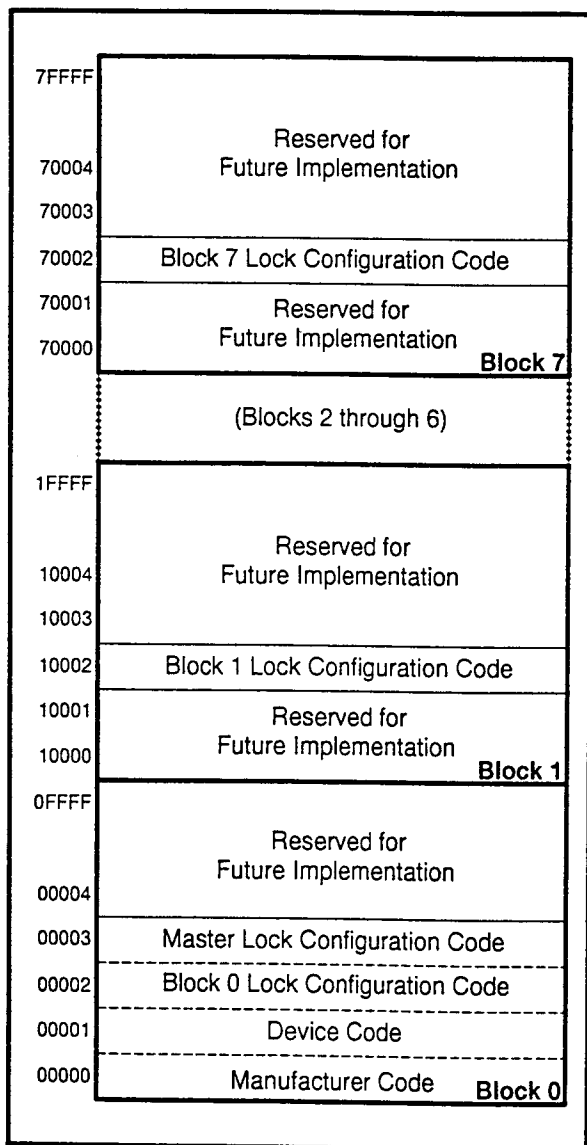

Figure 3. Device Identifier Code Memory Map
The read identifier codes operation outputs the manufacturer code, device code, block lock configuration codes for each block, and the master lock configuration code (see Figure 3). Using the manufacturer and device codes, the system CPU can automatically match the device with its proper algorithms. The block lock and master lock configuration codes identify locked and unlocked blocks and master lock-bit setting.
IA=Identifier Code Address: see Figure 3.
The identifier code operation is initiated by writing the Read Identifier Codes command. Following the command write, read cycles from addresses shown in Figure 3 retrieve the manufacturer, device, block lock configuration and master lock configuration codes (see Table 5 for identifier code values). To terminate the operation, write another valid command. Like the Read Array command, the Read Identifier Codes command functions independently of the V_{PP} voltage and RP# can be V_{IH} or V_{HH} . Following the Read Identifier Codes command, the following information can be read:
1. X selects the specific block lock configuration code to be read. See Figure 3 for the device identifier code memory map.